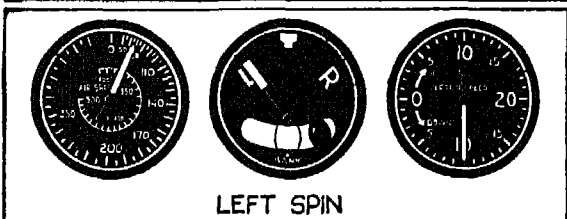

FIG. 289
FIG. 289. If, on the other hand, you fall into a left spin, the wings of the plane will strike the air at such a high angle of attack that the air speed will be reduced, the ball of the bank indicator will be off center, toward the right, and the turn indicator will be deflected according to how tight and fast the spin is. The vertical speed indication will largely depend upon the type of plane you are flying, its wing loading, and the general overall drag characteristics.
If your plane goes into a left spin, as shown by the instruments in Fig. 289, depress the elevator and, by applying right rudder, bring the pointer of the turn indicator to center. As the rotation of the plane stops, you will find yourself in a straight, forward-diving position, with the ball of the bank indicator centered. Now that you have pulled yourself out of the spin, continue to recover as from a stall. In recovering from a spin, remember the usual procedure—that you must (1) stop the turn; (2) center the ball of the bank indicator; (3) check your air speed, by using the rudder, the aileron, and the elevator, in the order named.